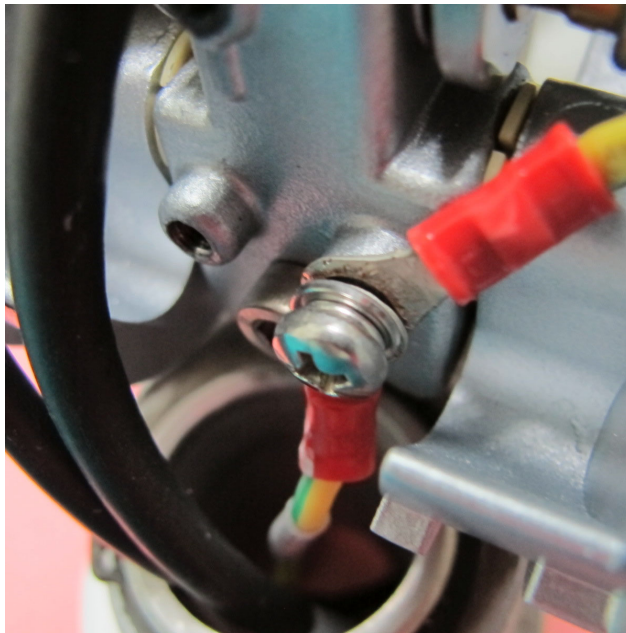

Figure 8-124
- 4.) Reconnect the two Ground cables previously removed - see Figure 8-124 below.